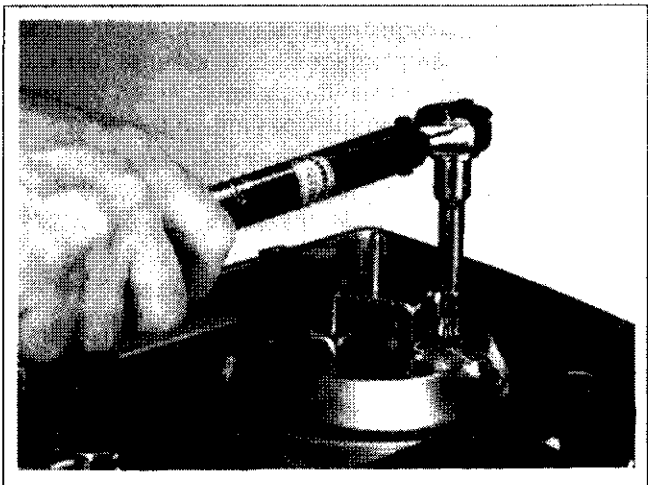

Figure 11-79. Tightening Base Screws.
3. Secure the air cleaner base and bracket using the hex. flange screws. Position bracket with hole towards breather tube. Be careful not to drop screws into carburetor. Tighten screws to **9.9 N·m (88 in. lb.)**. See Figure 11-79.